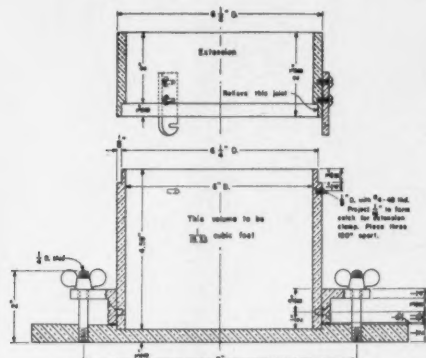

FIG. 2.—Cylindrical Mold, 6.0-in., for Soil Tests.
- (2) **6-in. Mold** having a capacity of 1/12.33 (0.077) cu. ft., with an internal diameter of 6.0 ± 0.005 in. and a height of 4.584 ± 0.005 in. (see Fig. 2).